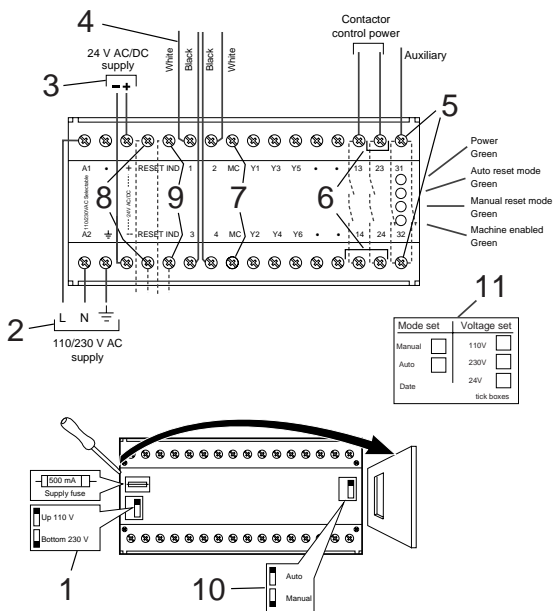

Figure 23 D9M-CD1 (Follow steps 1 to 12 for correct installation)
2. Isolate the power source and then install a temporary fault by short circuiting terminals 13 and 14 at terminal block 6 (Figure 23).
5. Isolate the power source and remove the temporary fault. Reinstate the power source and check that the D9M operates normally. Taking the same electrical safety precautions, repeat the test with a temporary short circuit across terminals 23 and 24 at terminal block 6 (Figure 23).